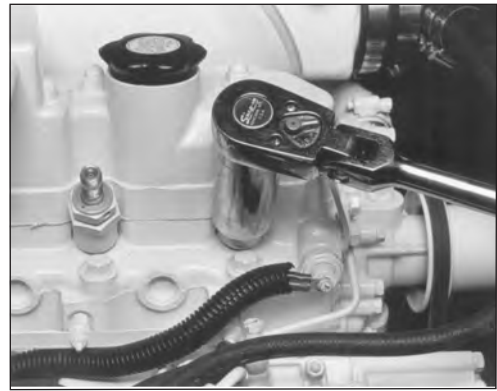

Figure 16: Unscrew injector.
- e. Unscrew and remove the injectors (Figure 16).